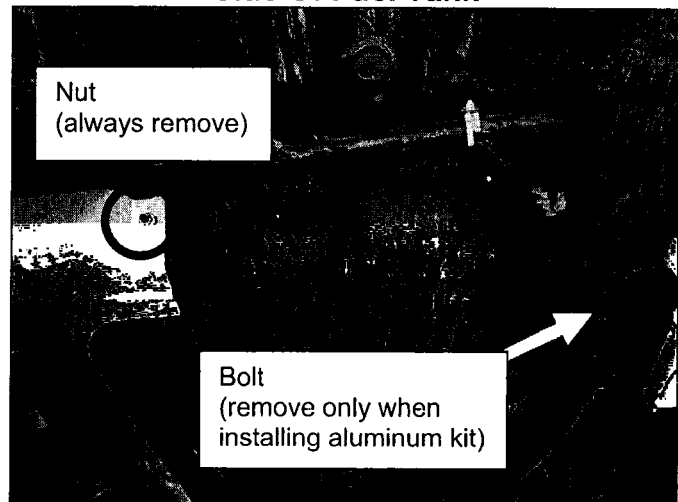

Figure 4
3. Remove the nuts (indicated by the circles in Figures 4 and 5) from the front LH and RH side of the fuel tank.
- First, remove the 10mm bolts (indicated by arrows in Figures 4 and 5) from the front LH and RH existing wheel well splash guard.